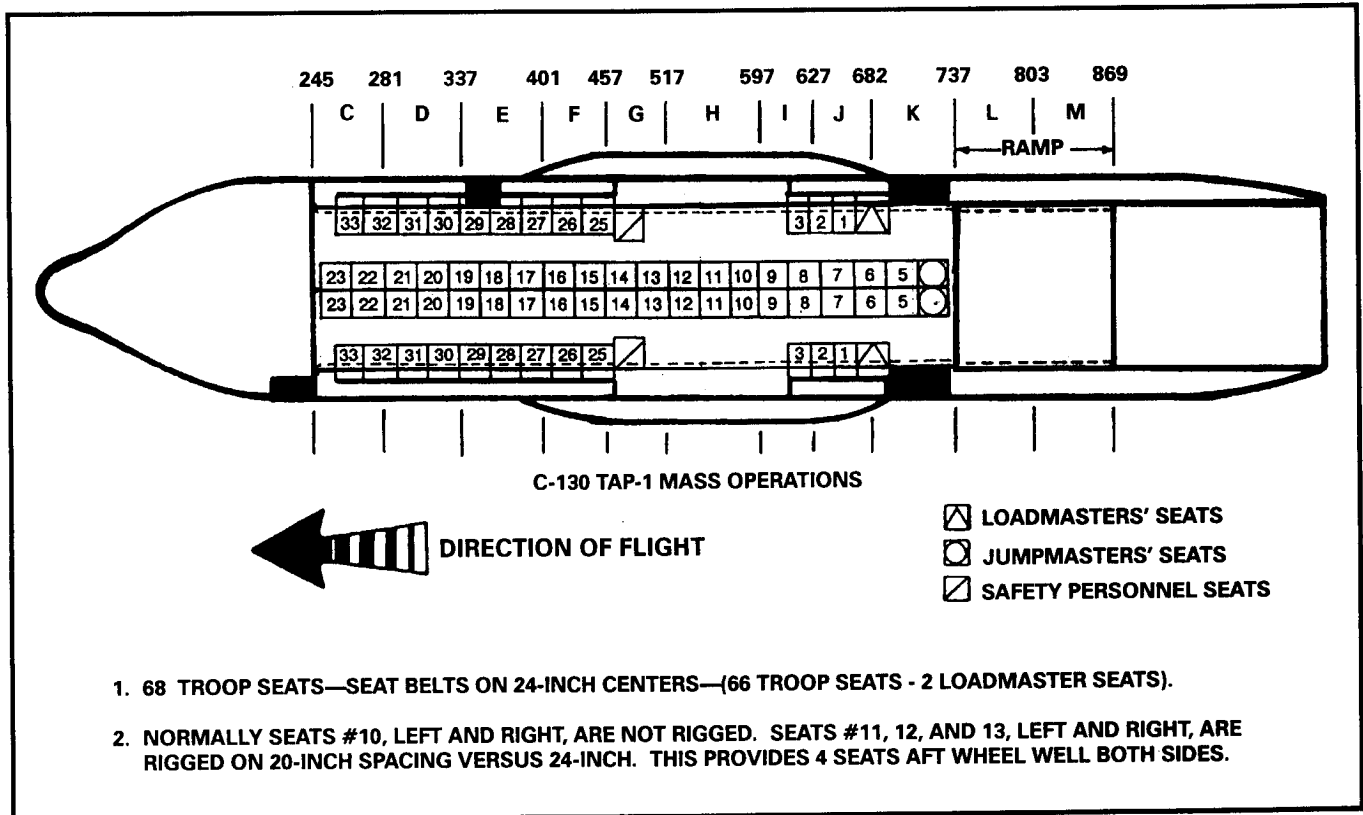

Figure 16-2. C-130 seating configuration.
a. **Peacetime Training (TAP 1).** A total of 64 parachutists can be seated in two sticks of 32. Numbers 1, 2, and 3 are seated outboard aft of the wheel well; 4 through 23 are seated on the inboard seats; and numbers 24 through 32 are seated outboard forward on the wheel well (Figure 16-2). Jumpers are normally loaded over the aft end loading ramp.